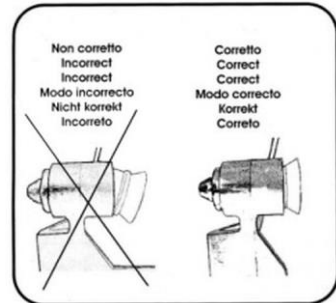

Fig. 15
16. Press the suction nozzle seal deep into the spiral head. Make sure the cap seal is positioned correctly as shown in Fig. 15.